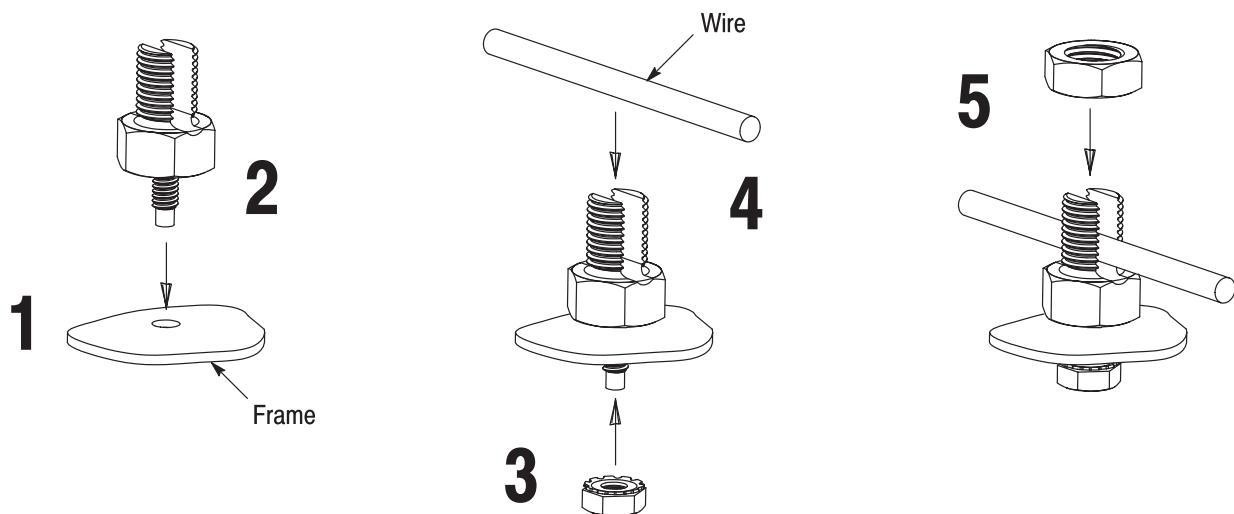

Figure 2
3. INSTALLATION (See Figure 2)